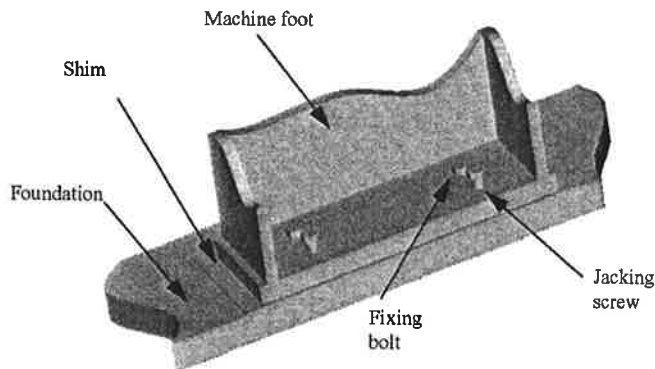

Figure 3-3 Vertical positioning of machine foot
In order to facilitate the alignment and enable the mounting of shims, jacking screws are fitted to the feet of the machine, see *Figure 3-3 Vertical positioning of machine foot*. The machine is left standing on the jacking screws. Note that the machine must stand on all four feet (screws) on a plain parallel within 0.1 mm (4.0 mil) or better. If this is not the case, the frame of the machine will be twisted or bent, which can lead to bearing or other damages.
5. Align the machine vertically by turning the jacking screws or by jacking with hydraulic jacks. To facilitate the alignment in the vertical plane, jacking screws are fitted to the feet of the horizontal machine, see *Figure 3-3 Vertical positioning of machine foot*. The alignment accuracy of the machine is sometimes affected by the thermal expansion of its frame, see *Chapter 3.6.4 Correction for thermal expansion*